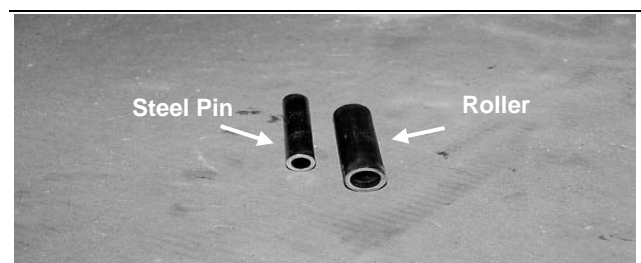

Figure 12-17A
3. Inspect the rollers for wear and replace as necessary. The steel pin will normally not need replacing unless the roller has worn completely away and the steel pin is worn from engaging the track (fig. 12-17A & B).